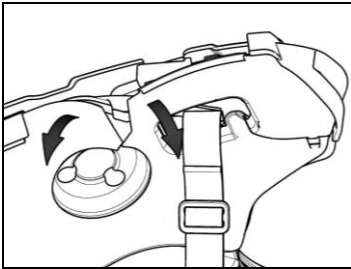

Fig. 10
- Lift up the plastic lining of the cheek padding (Fig. 10).